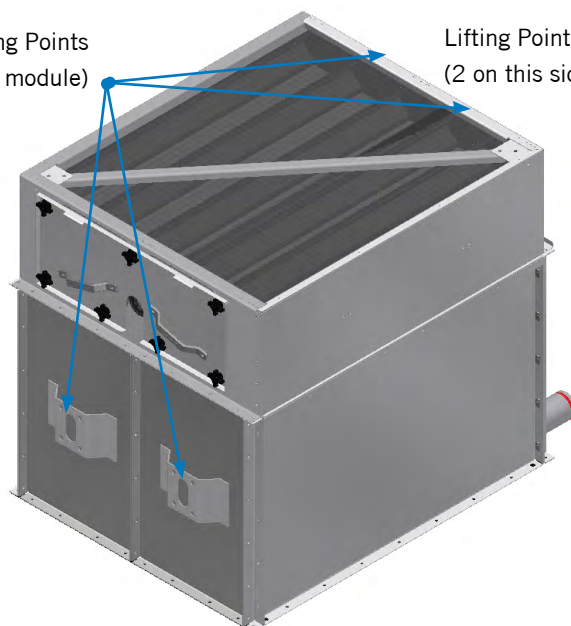

Figure 3b. hCore® Heat Transfer Technology Section Lifting
2. Lift the hCore Heat Transfer Technology Section onto the lower fan section using the specified lifting locations in **Figure 3b**.